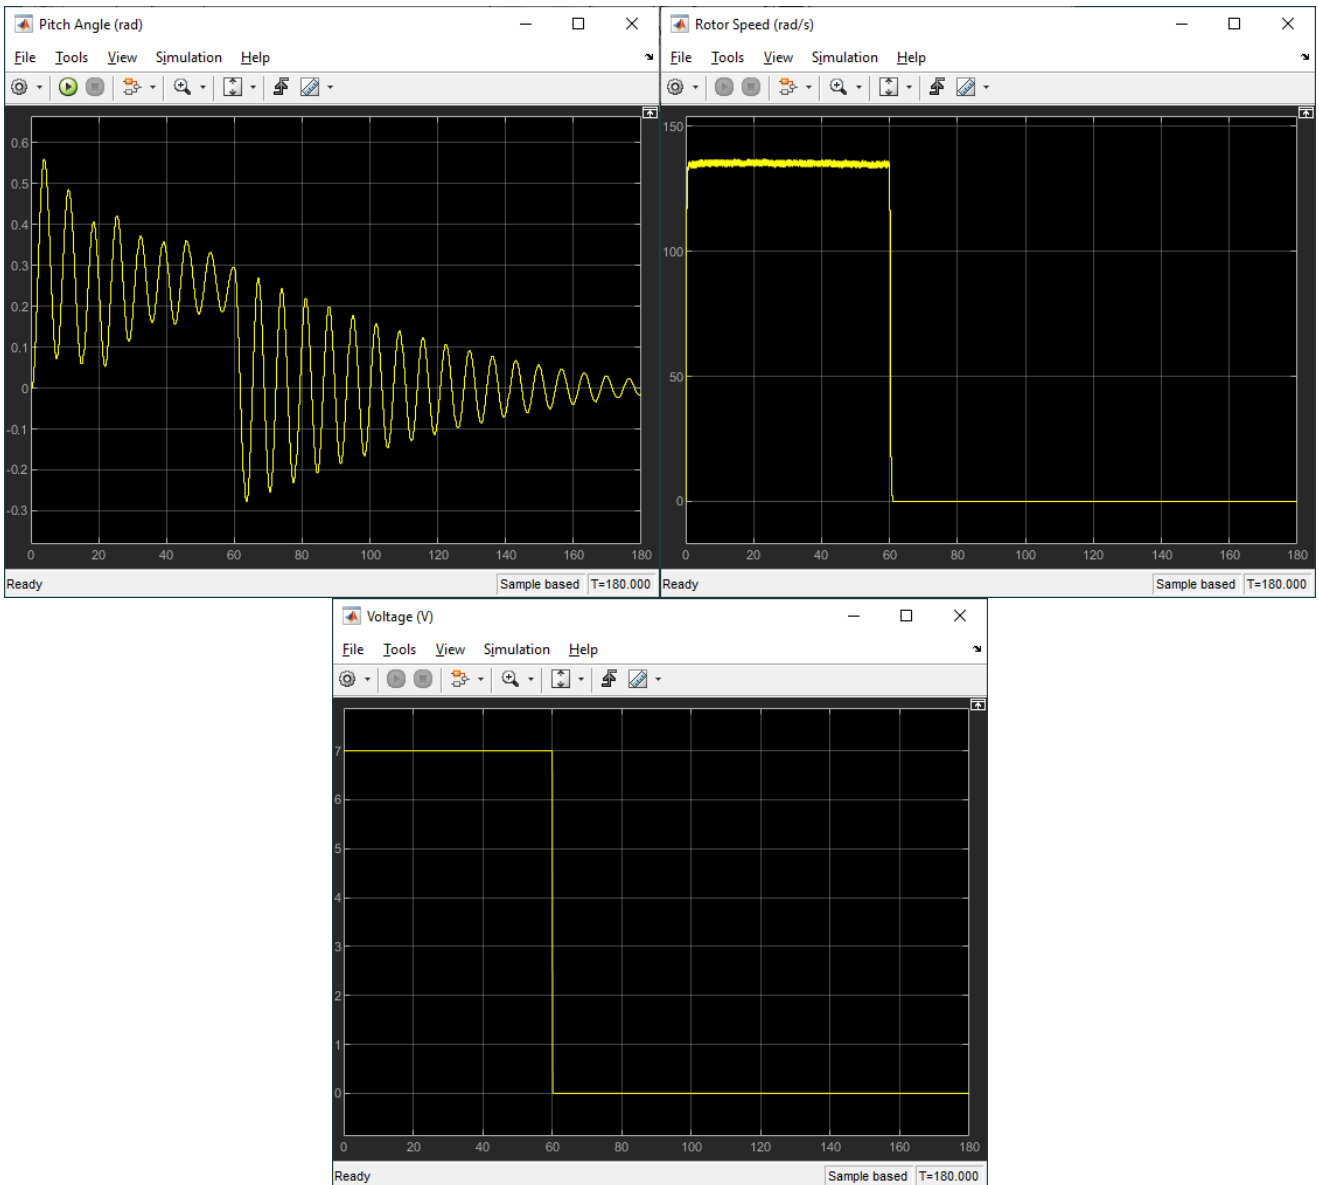

Figure 2 – Aero 2 step response
- Build and run the *q_aero2_pitch_step.slx* Simulink model in QUARC to apply the step to the front rotor, i.e., motor 0. The model will stop automatically after 180 sec. The response should look similar as shown in Figure 2.